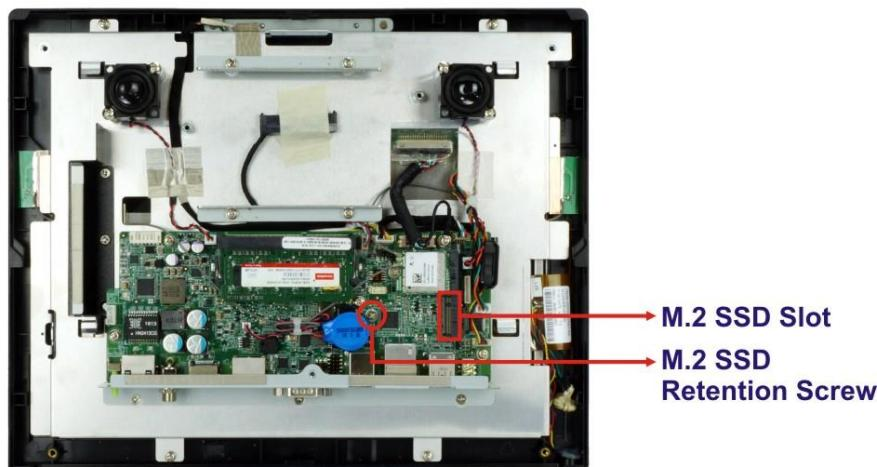

Figure 3-6: M.2 Slot Location
Step 2: Locate the M.2 B-key 2242 slot. Remove the preinstalled retention screw on the screw pillar of the M.2 slot as shown in **Figure 3-6**.